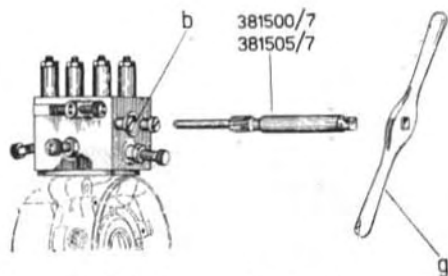

Fig. 17 - Reaming the bush on con.rod small end
4. - Ream the bush by inserting reamer 381500/7, shown in Fig. 17, into the guide hole «b» of part «a» of fixture T. 0022532, and rotating it by means of a tap wrench «g». Use reamer 381505/7 for 1st o./size bushes.